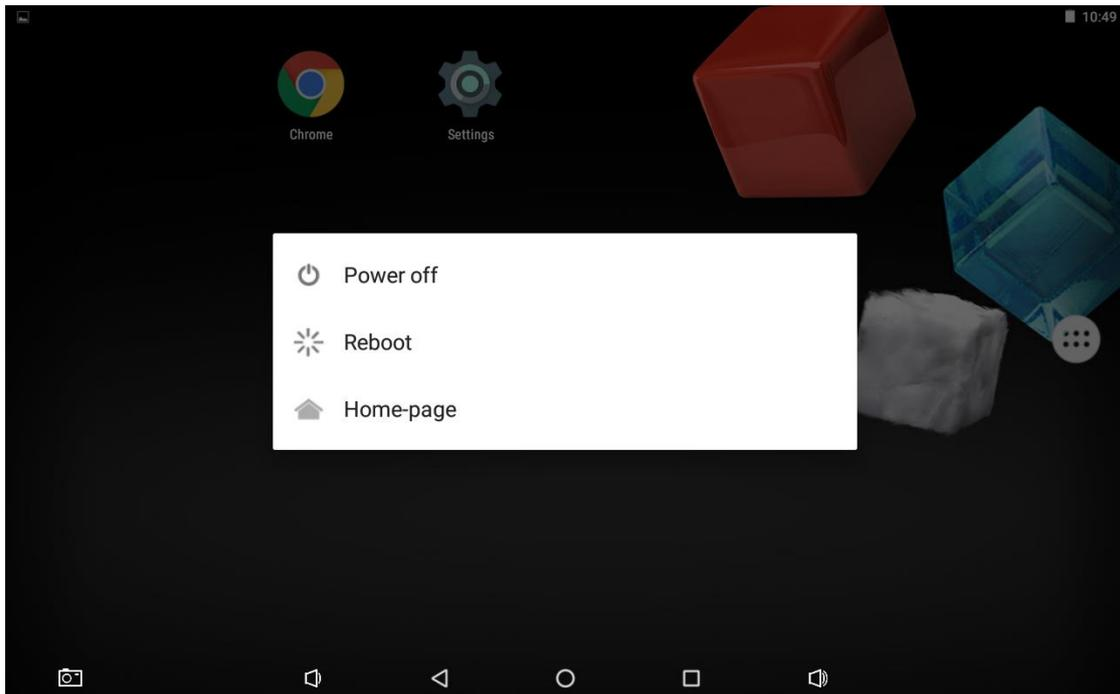

Figure 27: Using a Hidden Control Button
Press the Control button (5). The Power/reset pop-up screen appears (see <a href="#">Figure 27</a> ): If Home-page Exit is not password protected , switch to Home-page. If Home-page Exit is password protected (see <a href="#">Defining Control Button Password Protection</a> on page 26), enter the correct password and switch to Home-page.	Press rear-side power button (8). Power/reset pop-up screen appears (see <a href="#">Figure 27</a> ). Go to Home-page. Or: Click power-off and wait for system shut-down. Press rear-side power button to power on. The Touch Panel powers up. Go to Home-page.